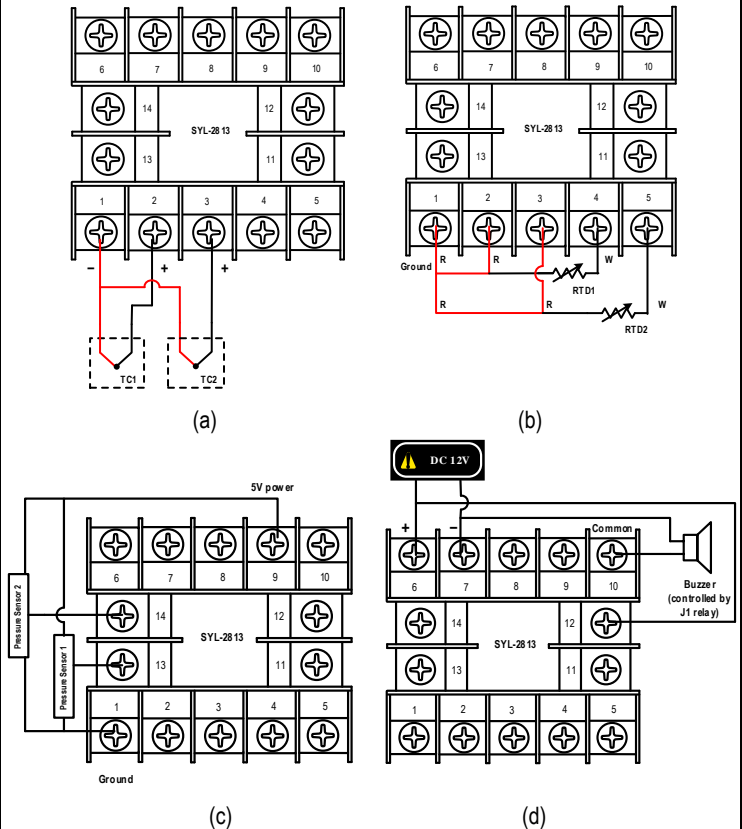

Figure 4. Wiring diagram for (a) thermocouples, (b) RTDs, (c) pressure sensors, and (d) relays.
3. Wiring of Thermocouples (TC). For Channel 1, connect the positive side of the TC to T2, the negative side to T1. For Channel 2, connect the positive side of the TC to T3, the negative side to T1. (See Figure 4(a).)
4. Wiring of Resistance Temperature Detectors (RTD). In Channel 1, for a three wire RTD, connect the two red wires to T1 and T2, connect white wire to T4; for a two wire RTD, connect the red wire to T2, and connect the white wire to T4, and short T1 and T2. In Channel 2, for a three wire RTD, connect the two red wires to T1 and T3, connect white wire to T5; for a two wire RTD, connect the red wire to T3, and connect the white wire to T5, and short T3 and T1. (See Figure 4(b).)
5. Wiring of Pressure Sensors. In Channel 1, connect the power source wire of the sensor to T9, the signal wire of the sensor to T13, and the ground wire of the sensor to T1. In Channel 2, connect the power source wire of the sensor to T9, the signal wire of the sensor to T14, and the ground wire of the sensor to T1. (See Figure 4(c).)
8. Wiring for relay output. J1 and J2 are two normally open relays. T10 is a common pole for both relays. Use T12 and T10 for J1 relay. Use T11 and T10 for J2 relay. (See Figure 4(d).)
"0089" in the lower window and press SET again to enter the Parameter Setting Mode. Two parameters from the parameter list will be displayed. The upper window will flash the first parameter, the lower window will steadily display the next parameter on the list (see table 3). Use UP or DOWN key to scroll to the desired parameter (flashing in the upper window) and press SET to view the value. For numerical values, use SHIFT key to go to any digit that needs to be changed and use UP or DOWN key to change the value. For letter values, use UP or DOWN key to select from available values. Then press SET to save and exit to the parameter list. To exit this mode, use UP or DOWN key to scroll to "End" (flashing in the upper display window) and press SET. See Figure 4 for a schematic diagram of how to change Basic Parameters.
The procedure for setting Alarm Parameters is similar to Basic Parameters showed in Figure 4 except the access code is 0001.
The procedure of setting Peak Value Parameters is similar to the Basic Parameters showed in Figure 4 except the access code is 0036.